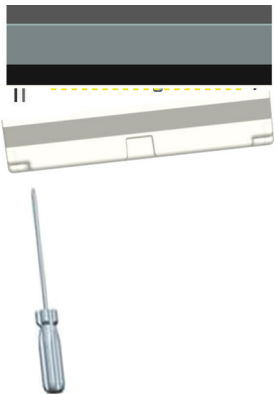

FIG 7
4. Remove the PC protective cover on the LED head (see FIG. 7). The PC cover is only meant to protect the LEDs during shipment and installation. It has to be removed after installation.
5. Remove the PC protective cover on the LED head (Refer to FIG. 7). The PC cover is only meant to protect the LEDs during shipment and installation. It has to be removed after installation.